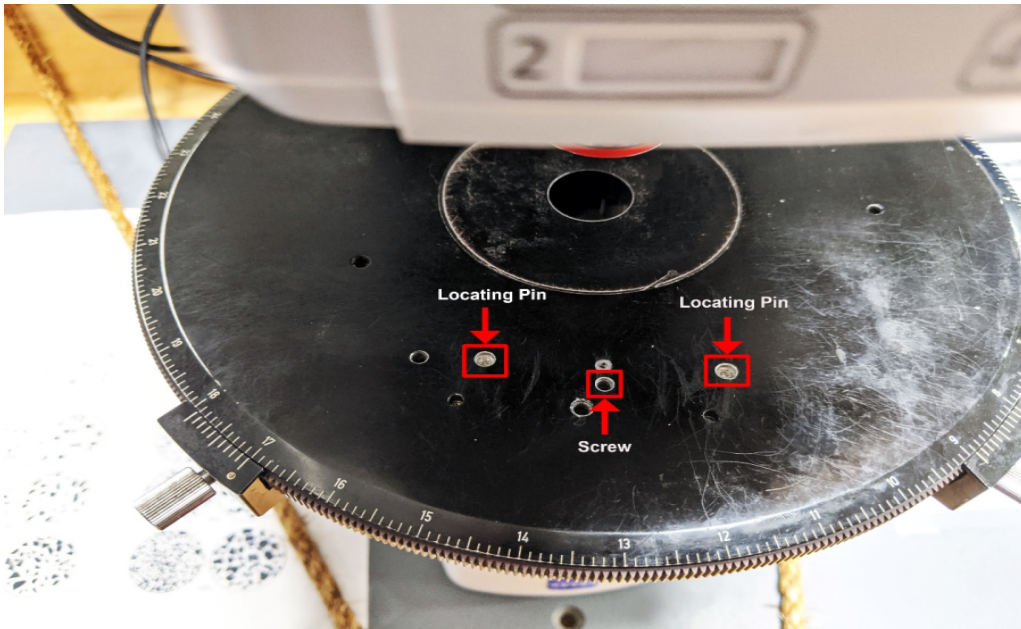

Figure 7: Callouts for the locations of the locating pins and screw on the microscope stage.
2. Place the unit onto the stage so the locating pins rest in divets (Figure 7)